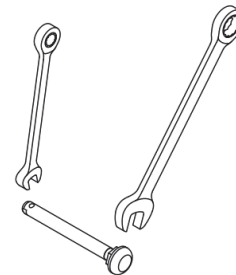

Figure 14.30: Quick release axle adjustment
1. Using a 7/16" open end wrench, securely hold the detent ball end of the axle. (See Figure 14.30)